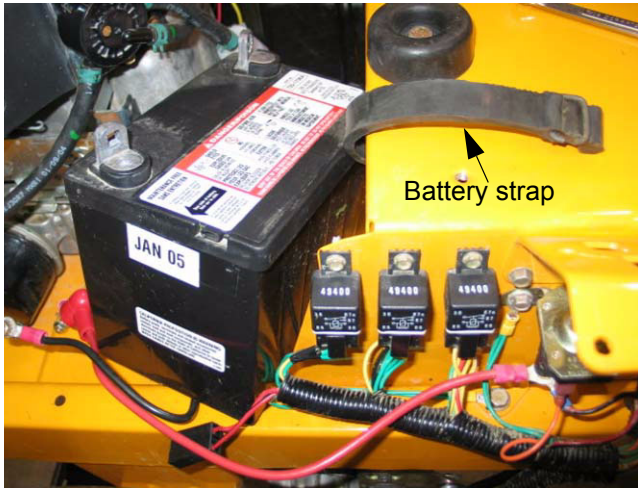

Figure 11.10
- 11.10. With the right side console removed the battery will slip out the side easily. See Figure 11.10.